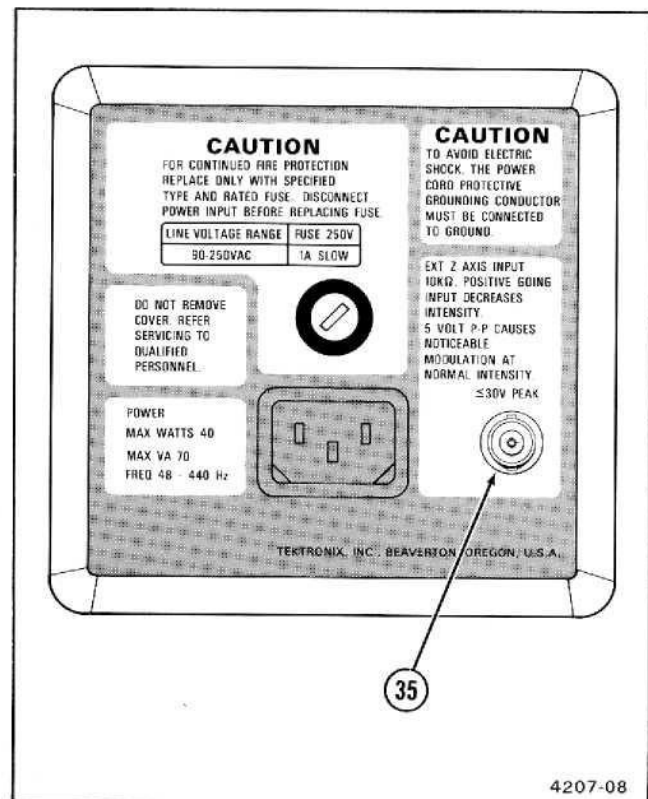

Figure 2-7. Rear-panel connector.
Refer to Figure 2-7 for location of item 35.